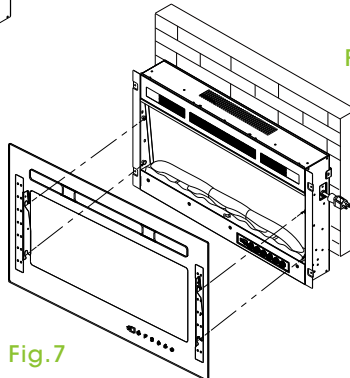

Fig.7
- H** Place the front panel lock the appliance, refer to Figure 7.